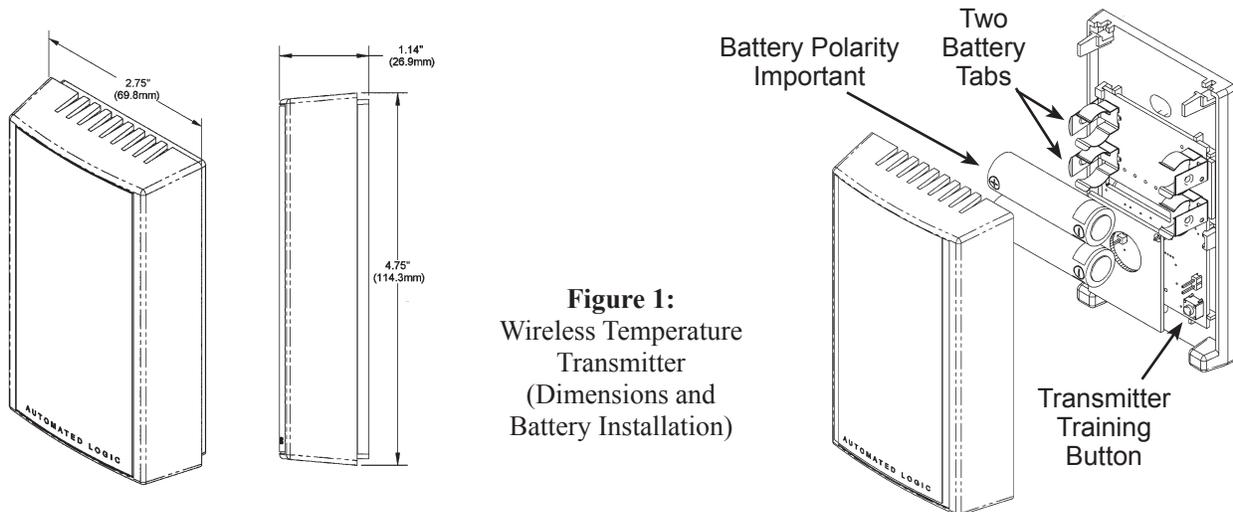

Figure 1:
7. Remove the battery tabs or install the batteries to start the sensor transmitting. (See Fig. 1)
3. Remove the cover of the transmitter and remove battery tabs or install the batteries, observe polarity. (See Figure 1) The small LED at the bottom right, next to the Transmitter Training Button in Figure 1, should flash approximately once every 20 seconds. (The flash is very quick.)